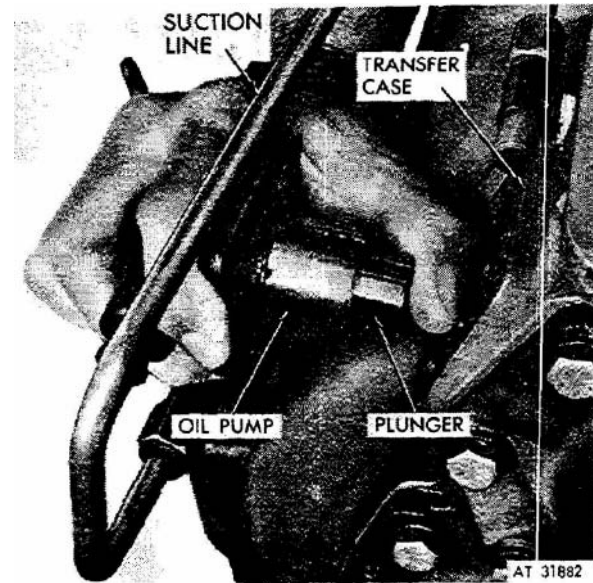

Figure 3-86. Priming oil pump.
(40) Connect oil pump suction line (fig 3-86) from base of transfer case to oil pump.